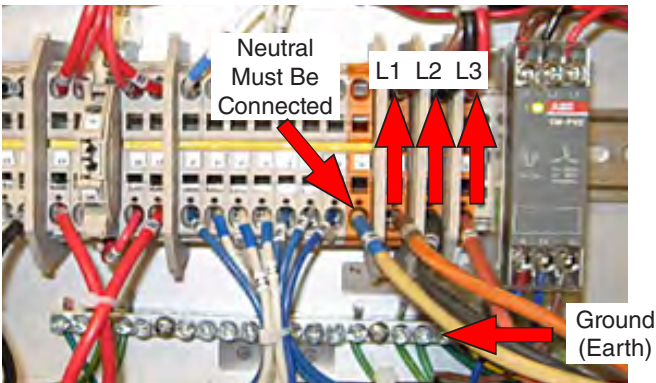

Figure 5.8e: Electrical input connections for 400 V testers.
- For 400 V machines, five wires are required; four current carrying conductors and an earth ground (Figure 5.8e).